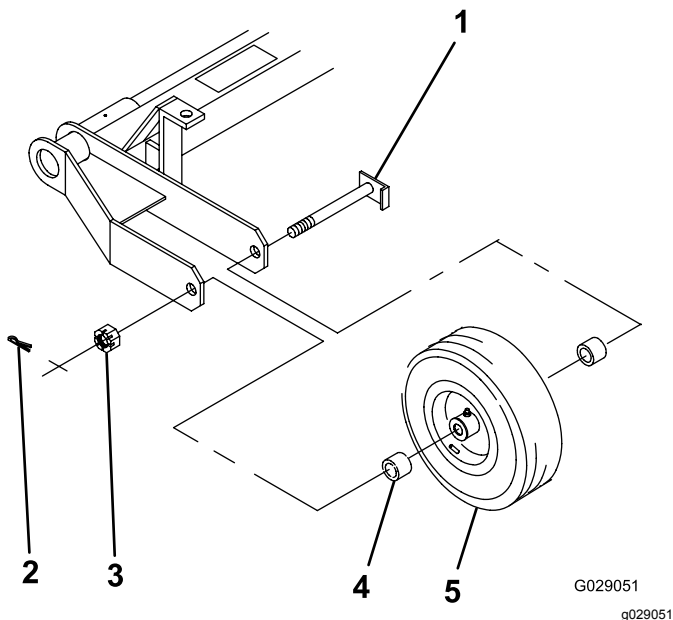

Figure 3
1. Position the wheel assembly and 2 spacers (1 on each side of the wheel hub) between the frame as shown in Figure 3.
2. Insert the axle through the frame, spacers, and wheel (Figure 3).
3. Thread the slotted nut onto the axle (Figure 3) and tighten it with a hand wrench to 8 to 20 N·m (75 to 180 in-lb).
7. Install the cotter pin (Figure 3).